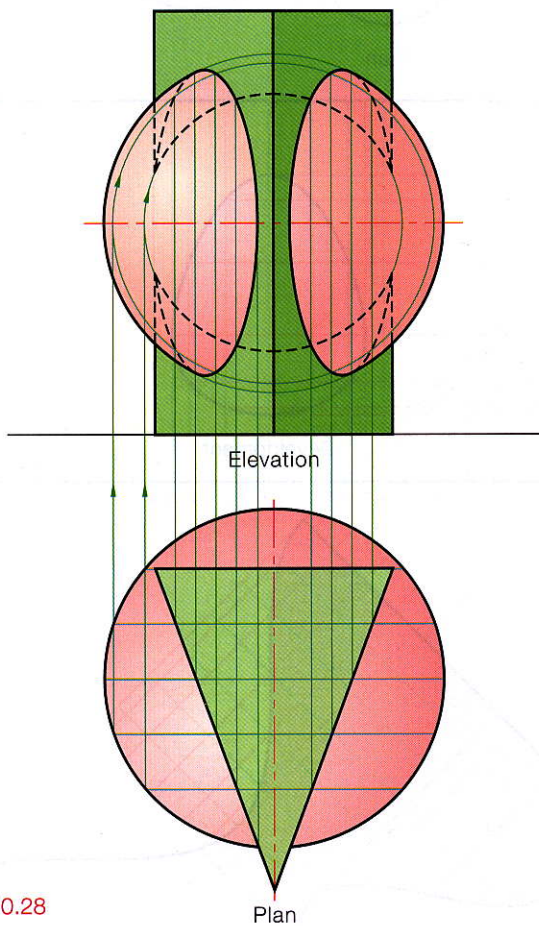

Fig. 10.28
- (1) This problem could be solved by using horizontal or vertical cutting planes.
- (2) It is advisable to take the cutting planes equidistant each side of the sphere centre line as this will reduce the number of sectional circles needed in elevation.
- (3) One of these sectional circles forms part of the interpenetration line to the back of the two solids, Fig. 10.28.